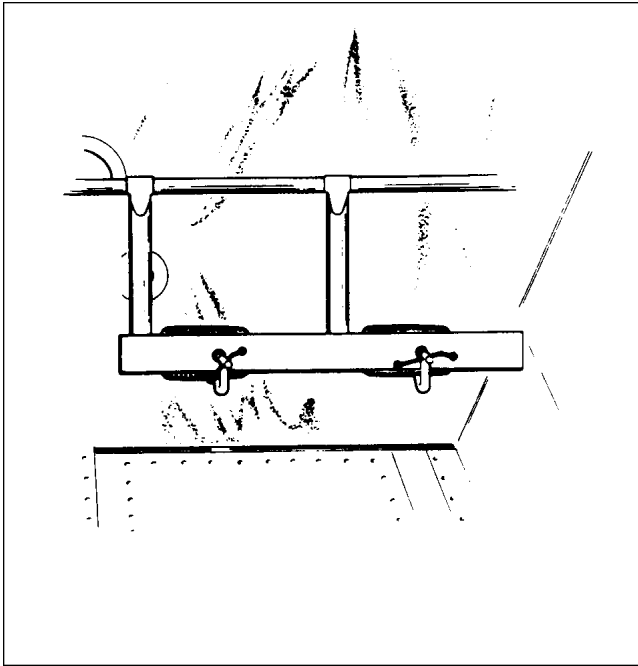

Figure 32-7. Clamping Rudder Pedals
7. Clamp rudder pedals to align in a lateral position. (Refer to Figure 32-7.)